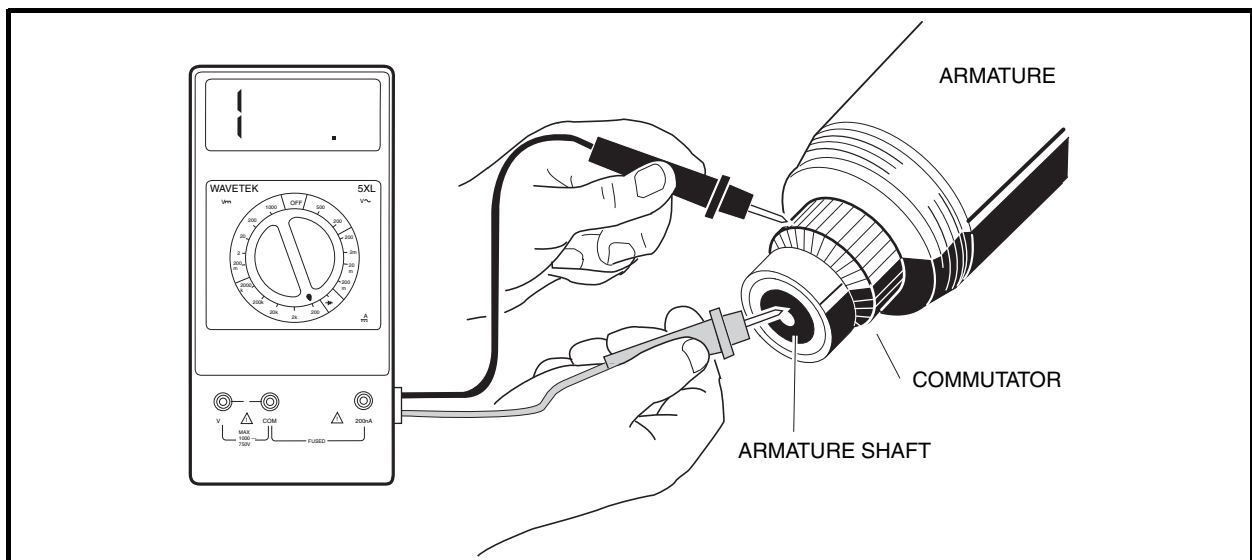

Figure 12-12 Armature Ground Test
1. Use a multimeter set on 200 ohms and place the positive (+) probe on the commutator bars and the negative (–) probe on the armature core. The reading should be no continuity. If the reading is incorrect, replace the armature and the two bearings (**Figure 12-12, Page 12-7**).